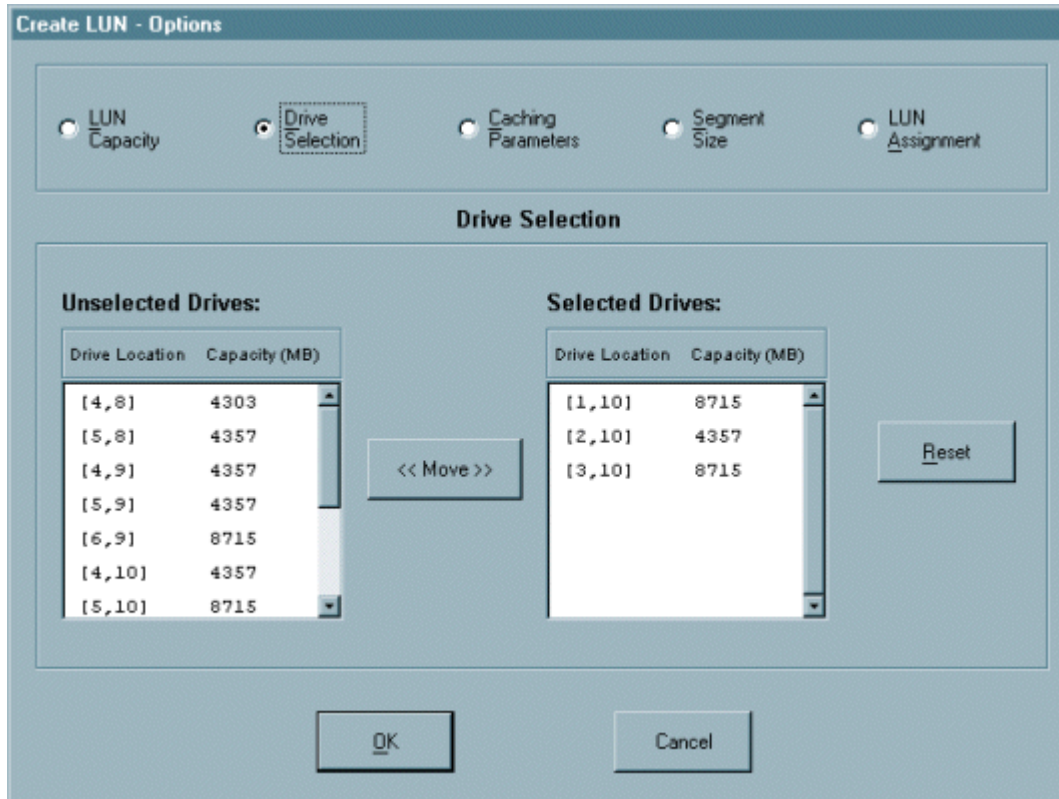

Figure 39. Creating a LUN, Drive Selection
8. Select **Drive Selection**. Choose the number of drives that are equal to the number of drives specified in step 4 which results in Figure 39. For performance and availability choose drives that are on different channels.